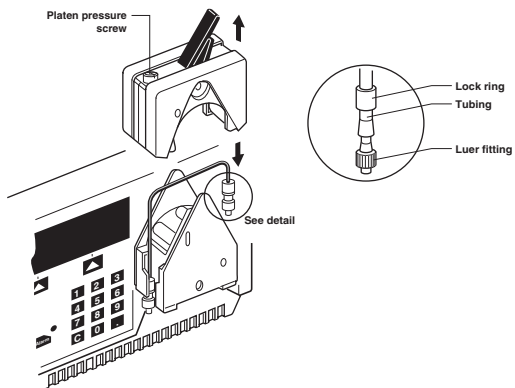

Fig. 1. Biologic LP setup.
1. Install 1.6 mm ID tubing in the pumphead. Adjust platen pressure screw (on pumphead). Using a screwdriver or coin, turn the screw counterclockwise as far as it will go, then turn clockwise three full turns. Assemble with fittings and lock rings as shown in Figure 1.